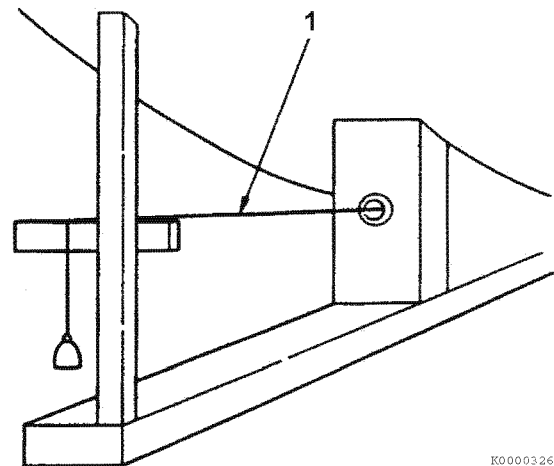

Figure 5-20
- Observe the centering line. This is the reference for the final drilling (1, **Figure 5-20**).